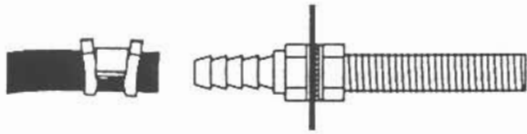

Figure 7
M. Slide a hose clamp over air line. Push air line onto fitting covering all barbs. With pliers, slide the hose clamp forward until it fully covers the barbed section (fig.7).